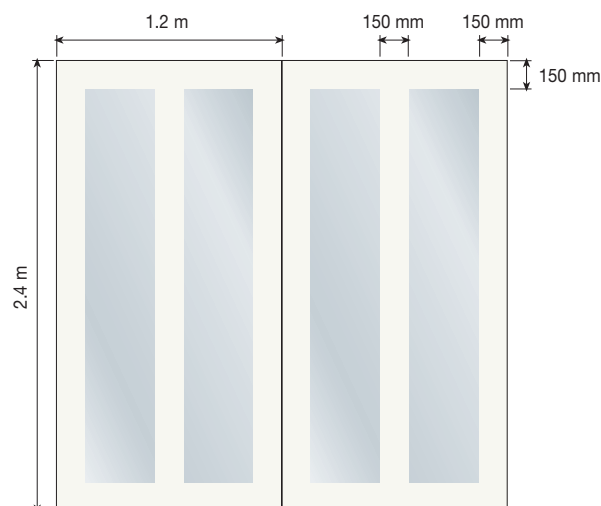

Figure 5 – A Bonding Agent Should be Applied Around the Perimeter and Down the Centre of the Board
- If required, one coat of undiluted bonding agent is to be applied with a roller onto the surface of the insulation foil facer on the reverse of the **Kingspan Kooltherm® K118 Insulated Plasterboard**, in bands of minimum 150 mm wide around the perimeter and also down the centre of the board (to coincide with the positioning of the dabs of adhesive) (see Figure 5).